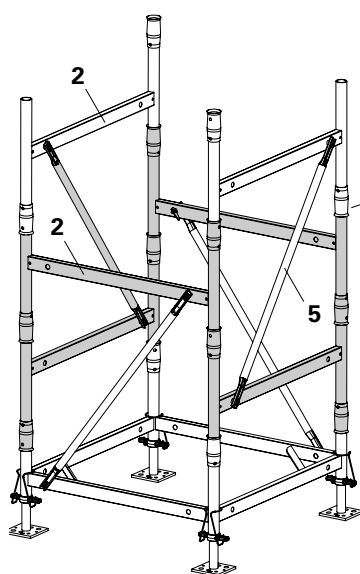

Fig. A1.04
5. Mount Stacking Frame (2) crosswise. (Fig. A1.04 + A1.04a)
6. Mount Diagonal Strut (5), see below. (Fig. A1.04)